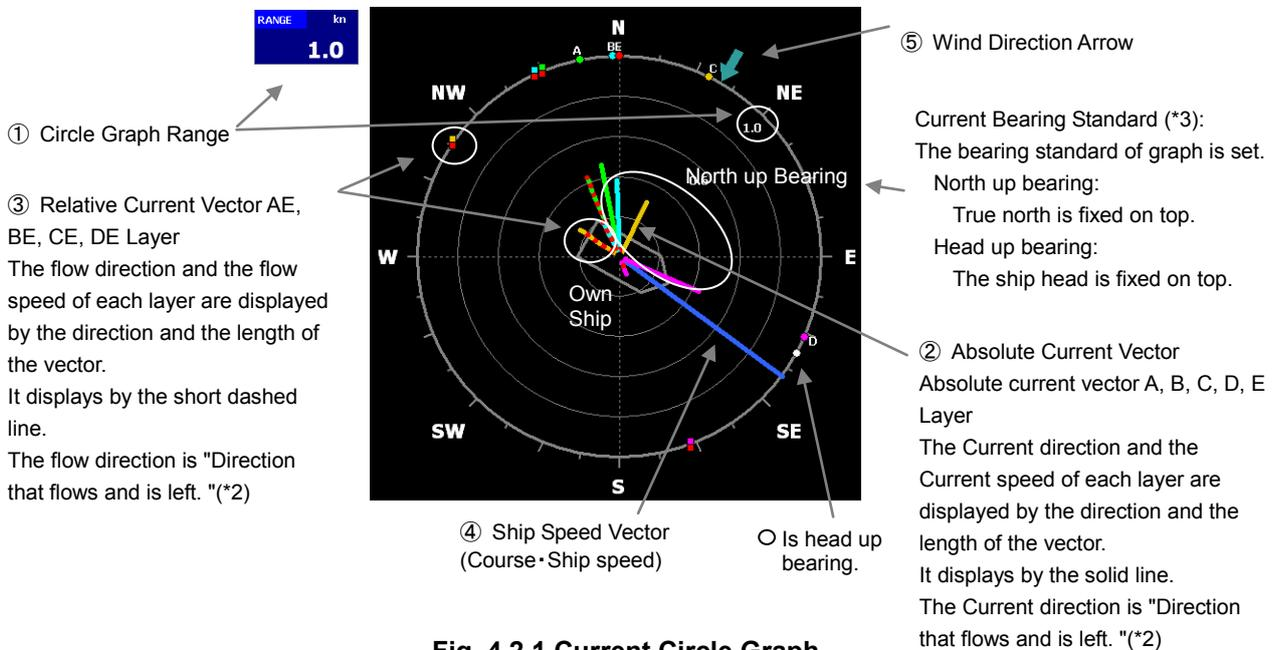

Fig. 4.2.1 Current Circle Graph
Function The circle range is set. Refer to Ex.① in the Fig.4.2.1